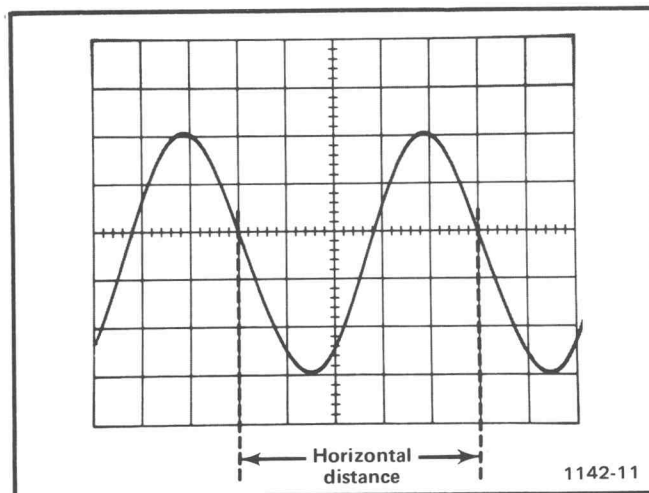

Fig. 3. Measuring the time duration between points on a waveform.
5. Set the TIME/DIV switch to the fastest sweep rate that displays less than eight divisions between the time measurement points (see Fig. 3).
**Example.** Assume that the distance between the time measurement points is five divisions (see Fig. 3) and the TIME/DIV switch is set to .1 ms.
**Example.** The frequency of the signal shown in Fig. 3 which has a time duration of 0.5 millisecond is: